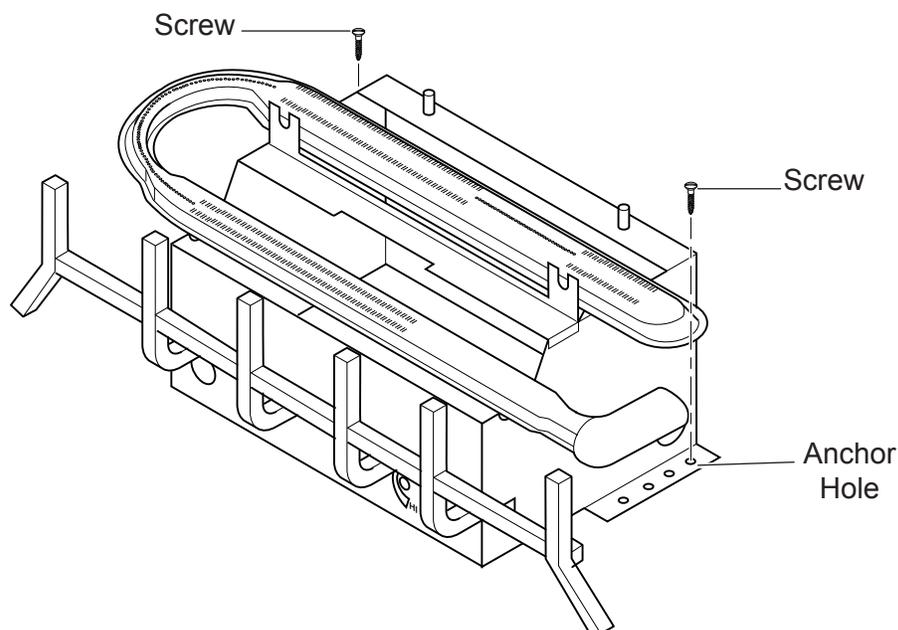

Figure 12 - Securing Heater to Floor of Fireplace/Firebox
2. Anchor holes are located on the flange of the unit. *See Figure 12*. After centering the grate correctly, mark the hole positions on the fireplace/firebox floor. Drill two (2) $\frac{5}{32}$ " diameter holes approximately $1\frac{1}{2}$ " deep.
3. Anchor the grate to the fireplace/firebox floor using the screws provided. *See Figure 12*.